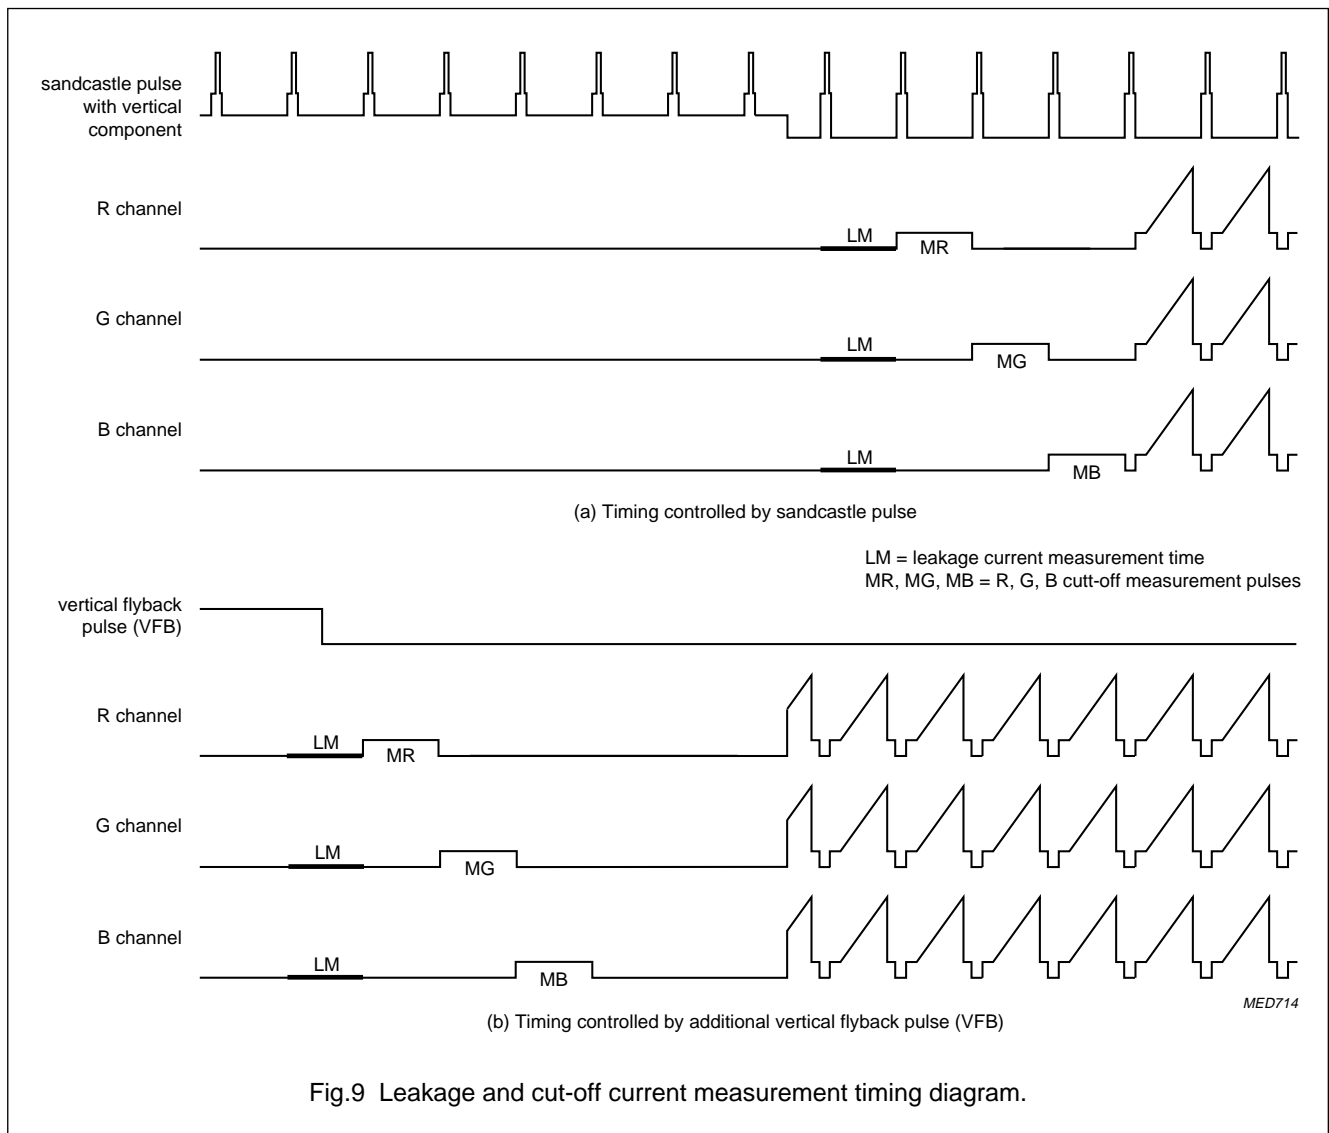

Fig.9 Leakage and cut-off current measurement timing diagram.
See Fig.9
7. Vertical signal blanking is determined by the vertical component of the sandcastle pulse. The leakage and the RGB cut-off measurement lines are positioned in the first four complete lines after the end of the vertical component. In this case, the RGB output signals are blanked until the end of the last measurement line; see Fig.9(a). If an extra vertical flyback pulse VFB is applied to pin 18, the four measurement lines start in the first complete line after the end of the VFB pulse; see Fig.9b. In this case, the output signals are blanked either until the end of the last measurement line or until the end of the vertical component of the sandcastle pulse, according to which occurs last.
11. During leakage current measurement, the RGB channels are blanked to ultra-black level. During cut-off measurement one channel is set to the measurement pulse level, the other channels are blanked to ultra-black. Since the brightness adjust shifts the colour signal relative to the black level, the brightness adjust is disabled during the vertical blanking interval (see Fig.8 and Fig.9).